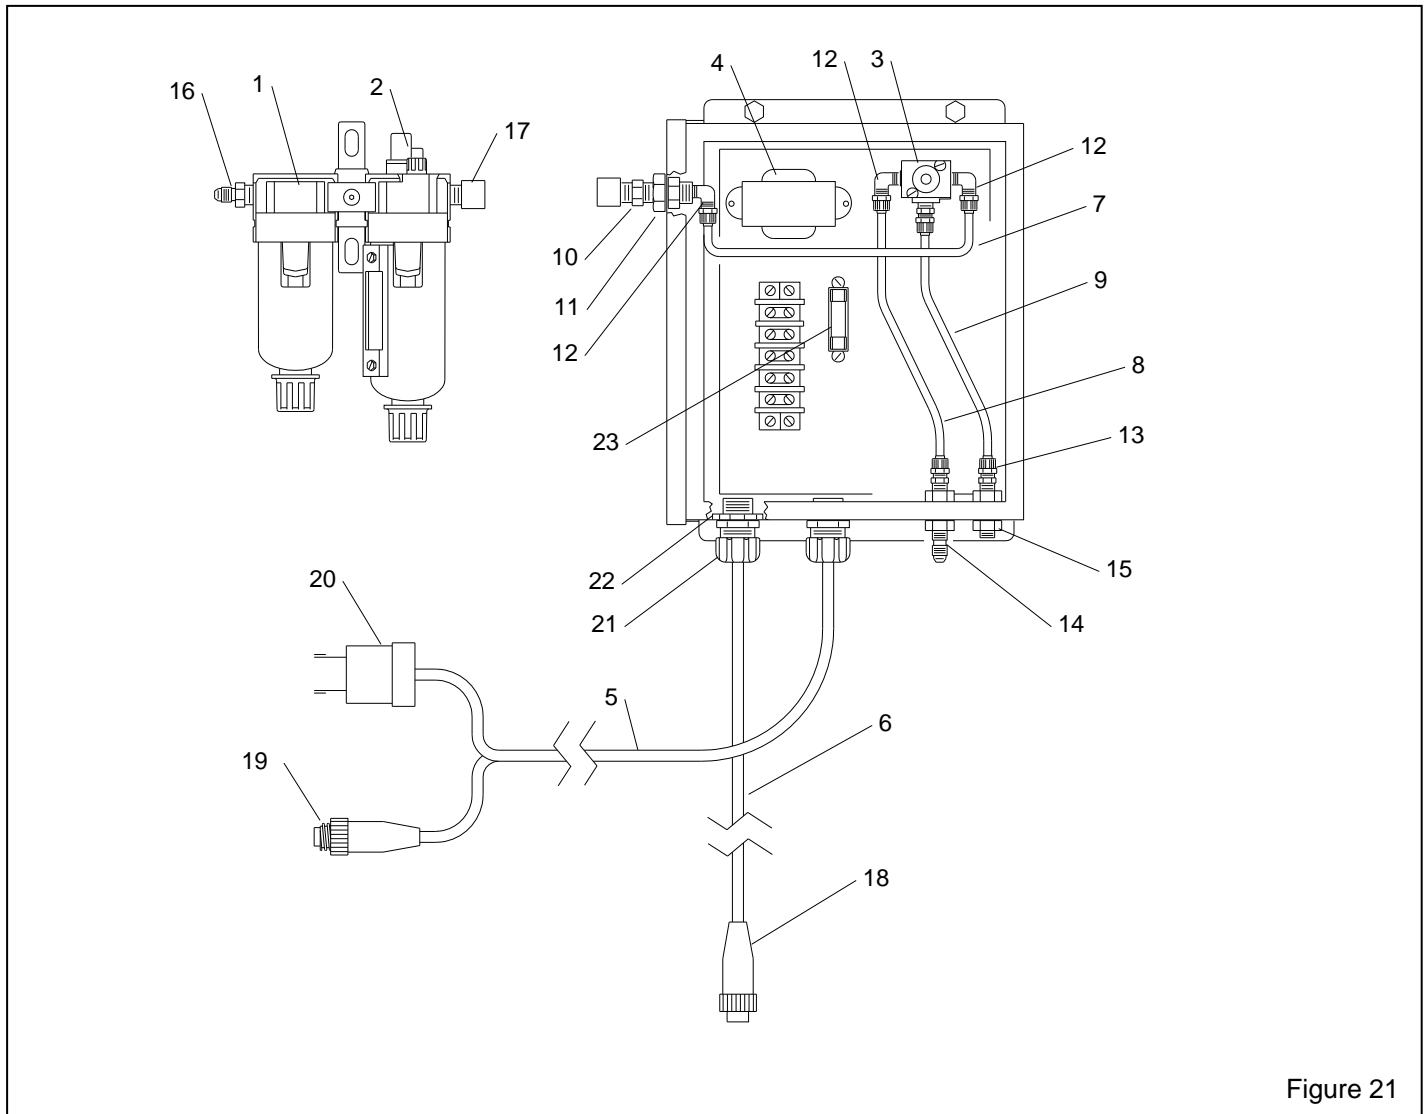

Figure 21
**8.9 Control Panel, Figure 21**